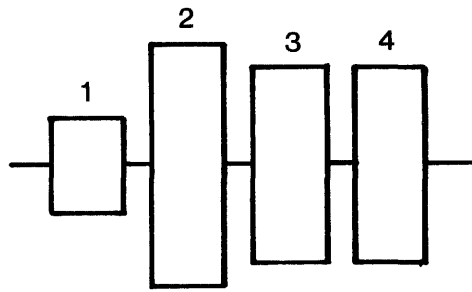

Figure 2-11
- F. Figure 2-11 depicts an alignment of exactly plus 9, 12, or 18 minutes, depending upon the manufacturer of the diskette used. Bursts 3 and 4 are of equal amplitude. This is the upper limit of allowable azimuth error. If this signal is observed, the Cats Eye alignment should be checked prior to any corrective action.